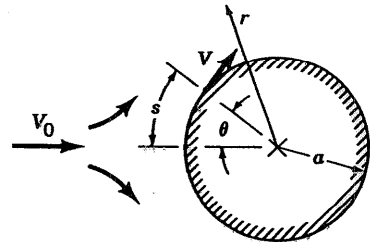

FIGURE P3.11
3.11 It can be shown that if viscous and gravitational effects are neglected, the fluid velocity along the surface of a circular cylinder of radius a is $V = 2V_0 \sin \theta$, where V_0 is the upstream velocity and $s = a\theta$ is the distance measured along the streamline that coincides with the cylinder (see Fig. P3.11). For a fluid of density ρ , determine the pressure gradient in the radial direction, $\partial p / \partial r$, on the surface of the cylinder. Assume the axis of the cylinder is vertical. Is $\partial p / \partial r$ positive or negative? Explain physically. For what θ is $\partial p / \partial r$ the maximum? Explain why.